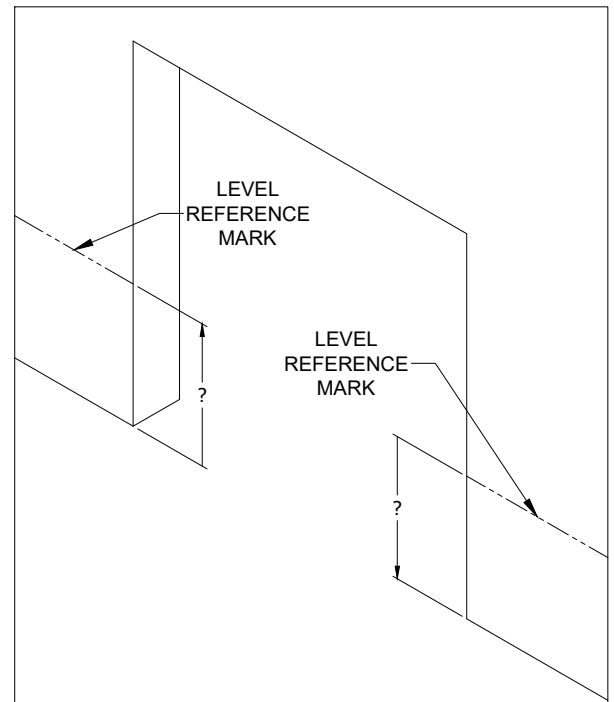

FIGURE 16
- b. Guide angles are designed to be set upon the floor unless one angle requires the use of shims at the floor level to create guide elevations as shown in Figure 16.
- b.a. Create level elevation marks at left and right jamb faces using a level reference device or survey instrument as shown in Figure 16.